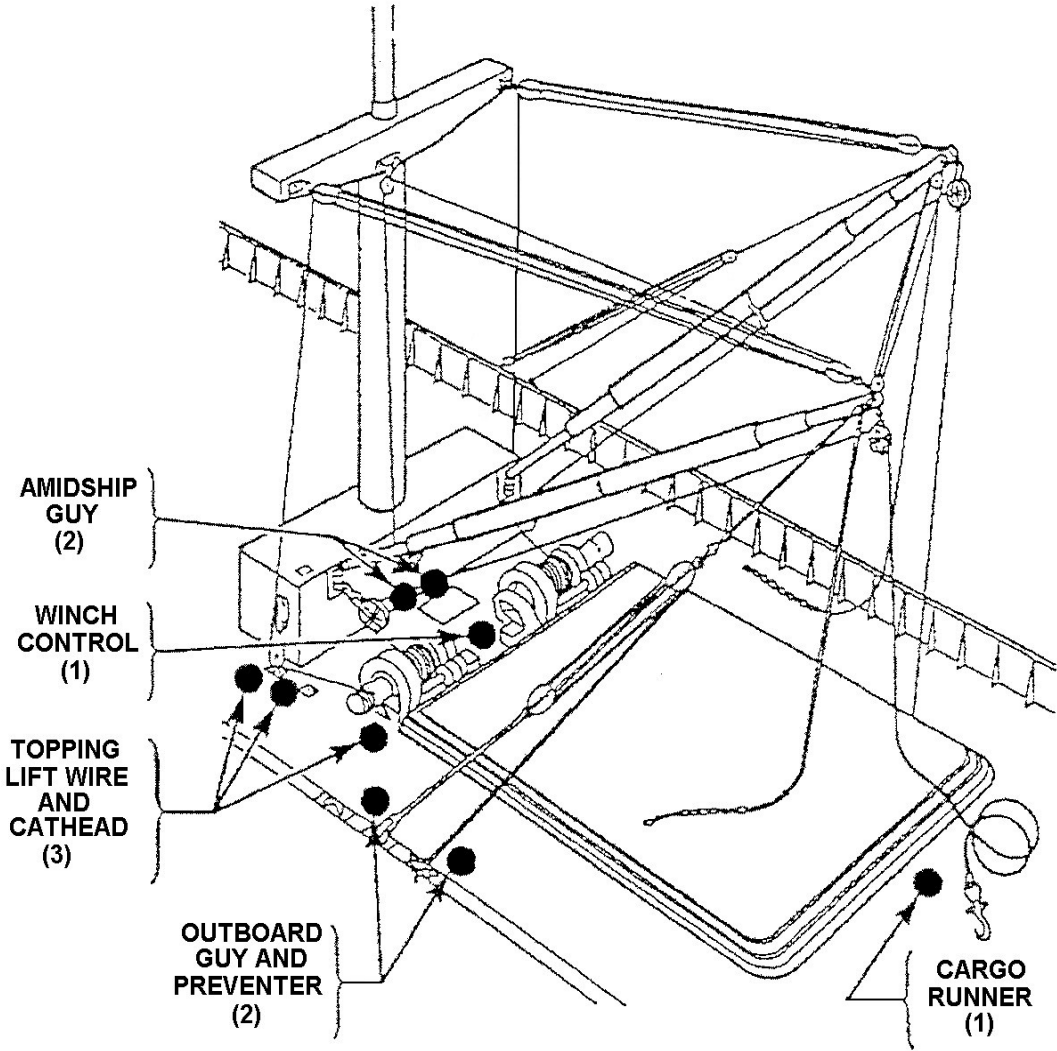

Figure 3-25
rope can be fastened. When the fitting is available, the bull rope is secured to it, instead of the five (5) turns being taken around the cathead (see Figure 3-25).